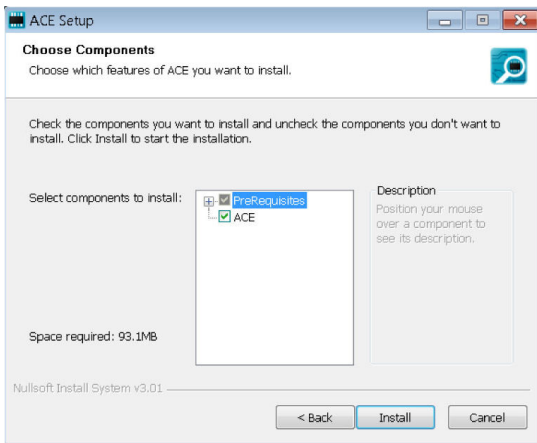

Figure 13. Choose Components
7. The ACE software components to install are preselected (see Figure 13). Click **Install**.